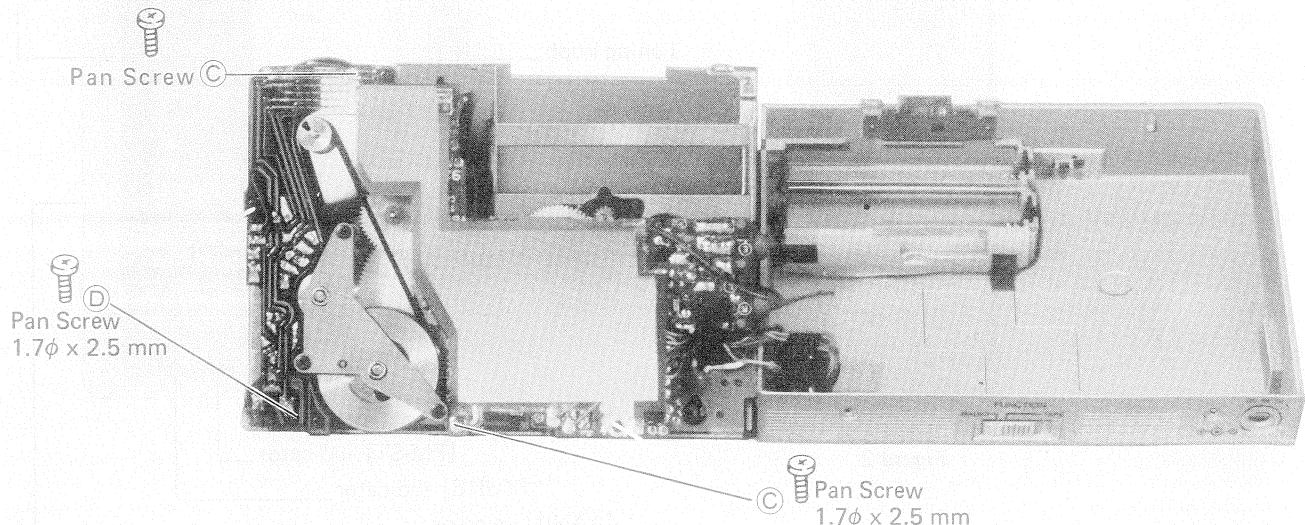

Figure 8
3. Remove three screws **(C)** retaining the P.C. Board and the mechanism assembly, and then remove two screws **(D)** retaining the motor P.C. Board and the mechanism assembly, (Figure 8)